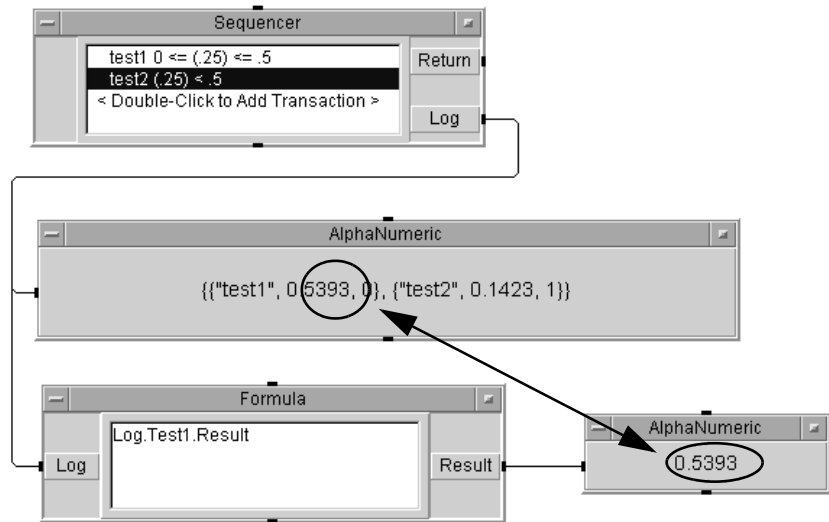

Figure 207 Accessing Logged Data
- 4 Run the program and it should access the Result field in Test1. Save the program as **seq2.vee**. The program should look like Figure 207.